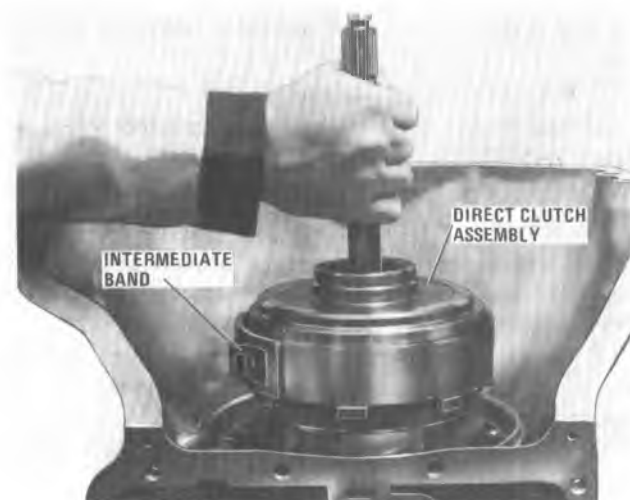

Figure 7A5-25 Removing Forward and Direct Clutch Assemblies and Intermediate Band
6. Remove direct and forward clutch assemblies and intermediate band from case (Figure 7A5-25). Refer to